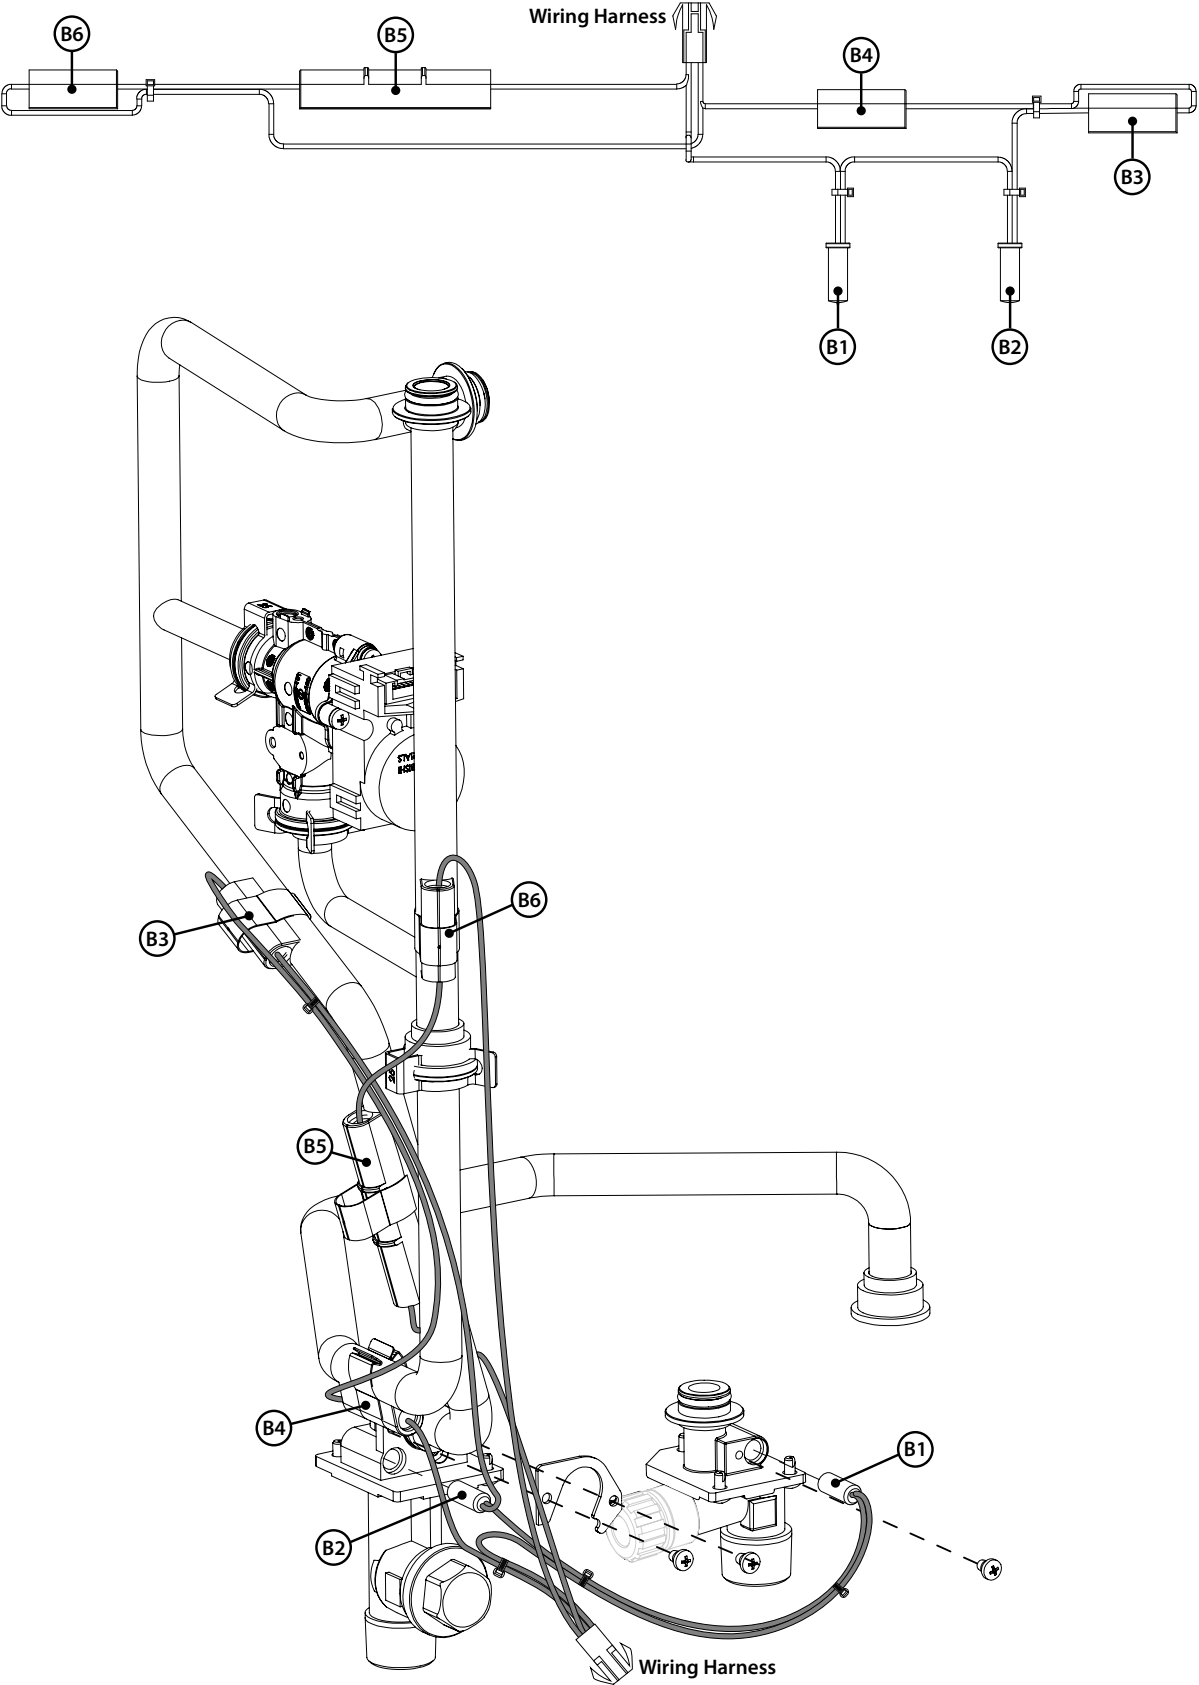

Figure 27 - Lower connection reference guide
- 16** Heater blocks B3 - B6 use a compression style clip as shown in Figure 27. Remove the compression clips and set aside in a safe place for reinstallation.
- 21** Reconnect heater blocks B3 - B6 using the clips removed in **Step 16**. Use Figure 27 for location reference.
- 22** Reconnect heater block B2 using the C clip and screws removed in **Step 17**. Use Figure 27 for location reference.
- 23** Reconnect heater block B1 using the screws removed in **Step 18**. Use Figure 27 for location reference.
- 24** Reconnect heater block lower wiring harness and security clip removed in **Step 15**. Use Figure 27 for location reference.